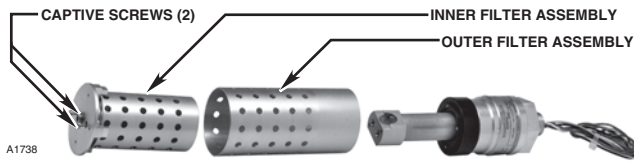
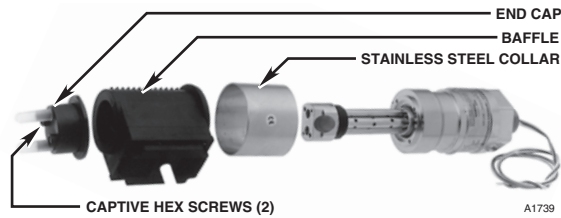

Figure 10—Aluminum PIR9400 Disassembly
Figure 11—Stainless Steel PIR9400 Disassembly
1. Completely loosen the captive screws on the flat end of the detector using the appropriate tool (flatblade screwdriver or Allen wrench) and slide off the weather baffle assembly. See Figures 10 and 11.
3. For the aluminum model, slide the outer filter assembly over the mirror assembly. The outer filter should be oriented with the solid portion toward the base of the detector. If it is not oriented correctly, the filter assembly will not slide onto the unit. Slide the inner filter assembly into the outer filter assembly and rotate until it is seated securely, then fasten the two captive screws using the appropriate tool. See Figure 10. For the stainless steel model, slide the stainless steel collar onto the base assembly, then slide the baffle onto the unit. Place the end cap on the baffle and rotate it until it is seated securely, then fasten the two screws using the appropriate tool. See Figure 11.